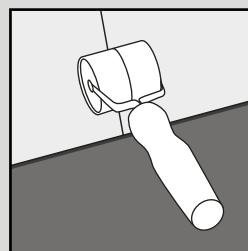
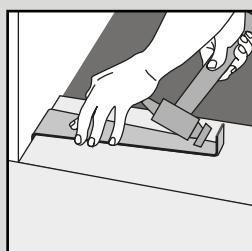

Fig. 4
Fig. 5
5. Continue to install planks across the room until the row is complete using a hand roller to assist (Fig. 4). Only if necessary, use a rubber mallet and an offcut of the product to gently tap the product. A pull bar can be used to pull the product together around the edges of the room (Fig. 5).